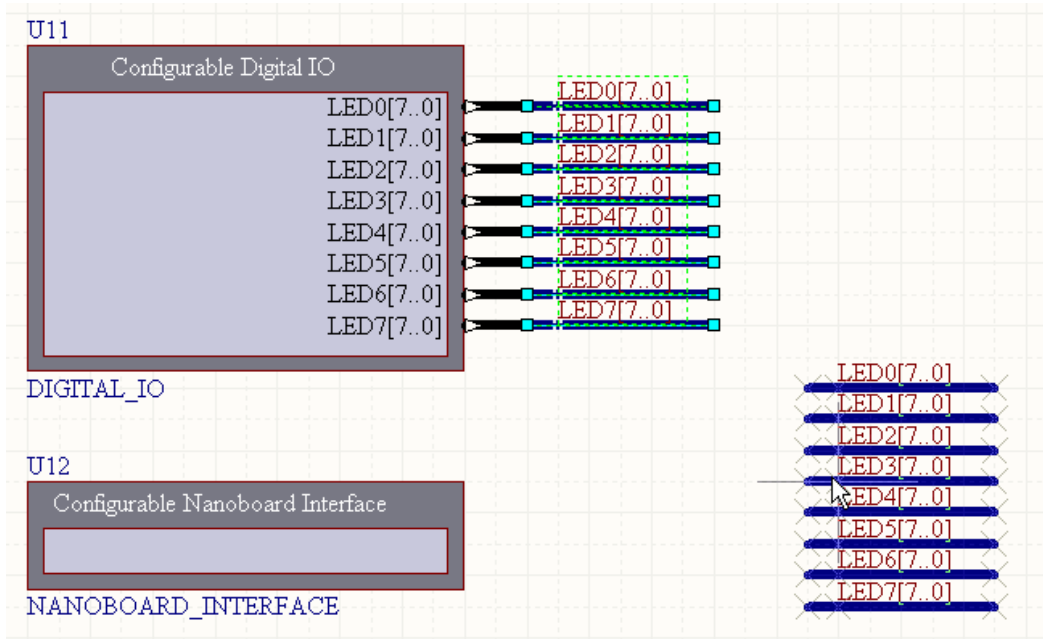

Figure 6. Hold Shift to drag a copy of the current selection.
26. To copy them all, hold the **Shift** key down and click the **Left Mouse Button** anywhere on any of the selected net labels, then while holding the mouse button down, move the mouse to a clear area of the schematic sheet, and release the mouse button to place the set of copied objects, as shown in Figure 6.